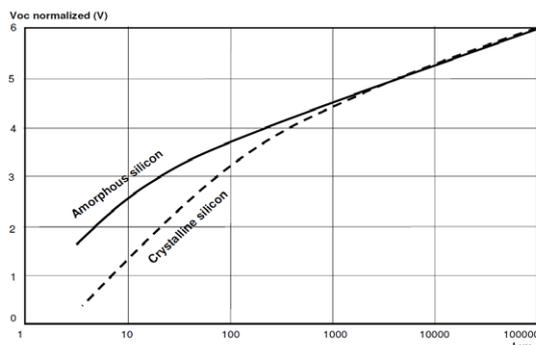

Fig. 4
Amorphous (non-crystalline) silicon cells, also called "indoor", with peak sensitivity at 500 nm are "specialized" for poor and fluorescent light (FL) conditions (Fig. 4, output voltage). While conventional crystalline solar cells are about two times more efficient by optimum light conditions (outdoors), amorphous cells beat them by far at poor indoor light levels and win on the 24-hour energy cycle, because they can also use poor artificial light and early morning or evening light. Also because of their larger bandgap amorphous silicon solar cells typically have higher open-circuit voltages, up to 0.9 V/cell.